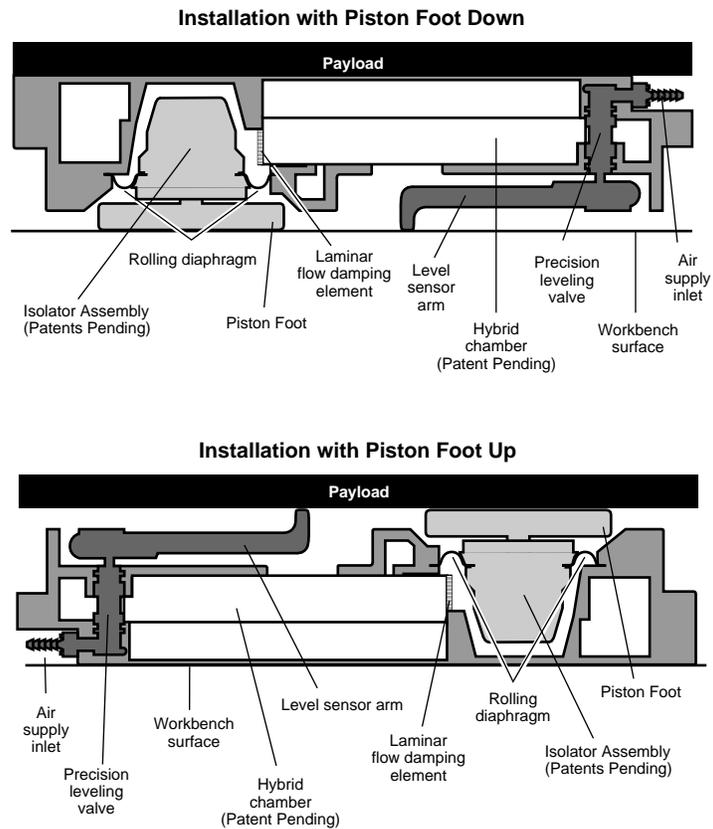

Figure 2a
- The isolation modules may be installed with the piston foot either up or down. (Figure 2a)